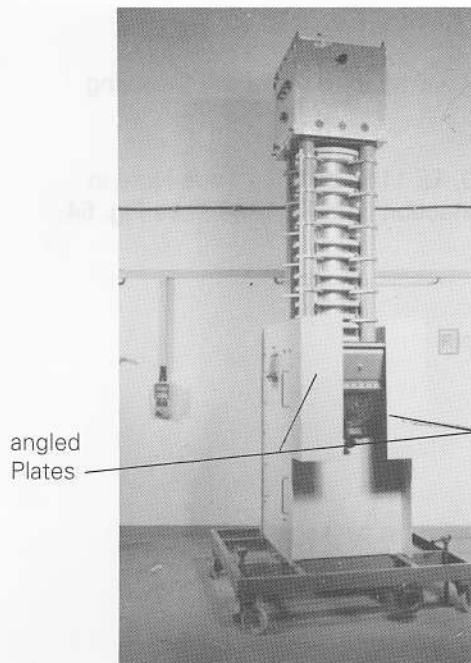

Fig. 48. Fitted angled Plates
- (c) Fit the two angled plates (Fig. 48), each with four bolts, washers and nuts.